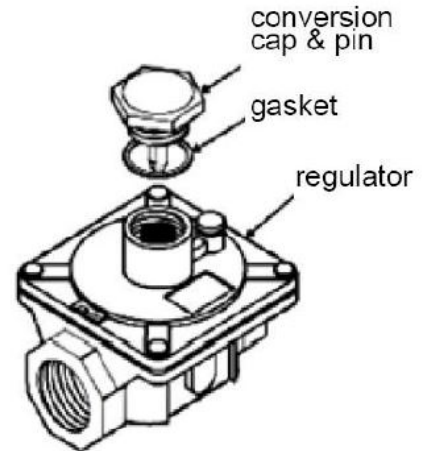

fig. 1 Gas pressure regulator
- To operate with the LP gas, the regulator must be changed to operate at 10# WC (see fig. 1 on page 1). To do this, remove the converter cap and pin from the regulator, remove the pin and invert then reinstall in the cap. Replace the cap on the regulator taking care that the gasket is in place on the cap.